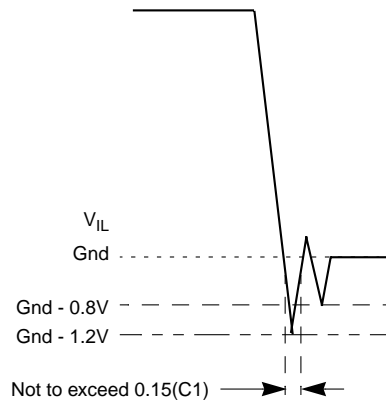

Figure 1. Undershoot Voltage
6.2.10.1, 6-11	<p>Table 6-6, PARK bit description, add the following text:</p> <p>NOTE: If round-robin mode (00) is selected, ensure that DCR[BWC] is set higher than the value in the BCR. If park-on-internal-DMA (10) or park-on-ColdFire-core (01) is selected, select DCR[BWC] = 000.</p>
11.4.2, 11-18	<p>Add the following text:</p> <p>NOTE: Glitches may occur on the address lines unless EDGESEL is tied high or BCLKO is qualified with the assertion of $\overline{\text{SRAS}}$ or $\overline{\text{SCAS}}$ before connecting to the EDGESEL input. These glitches do not affect DRAM controller operation and are within the undershoot limits specified by Figure 1 of this document.</p>
20.1 20-2	Add the following diagram and text: Figure 1 shows the allowable undershoot voltage on the MCF5307. Note that 1.2-V undershoot is only allowable if it is present 1% or less of the total processor operating time.